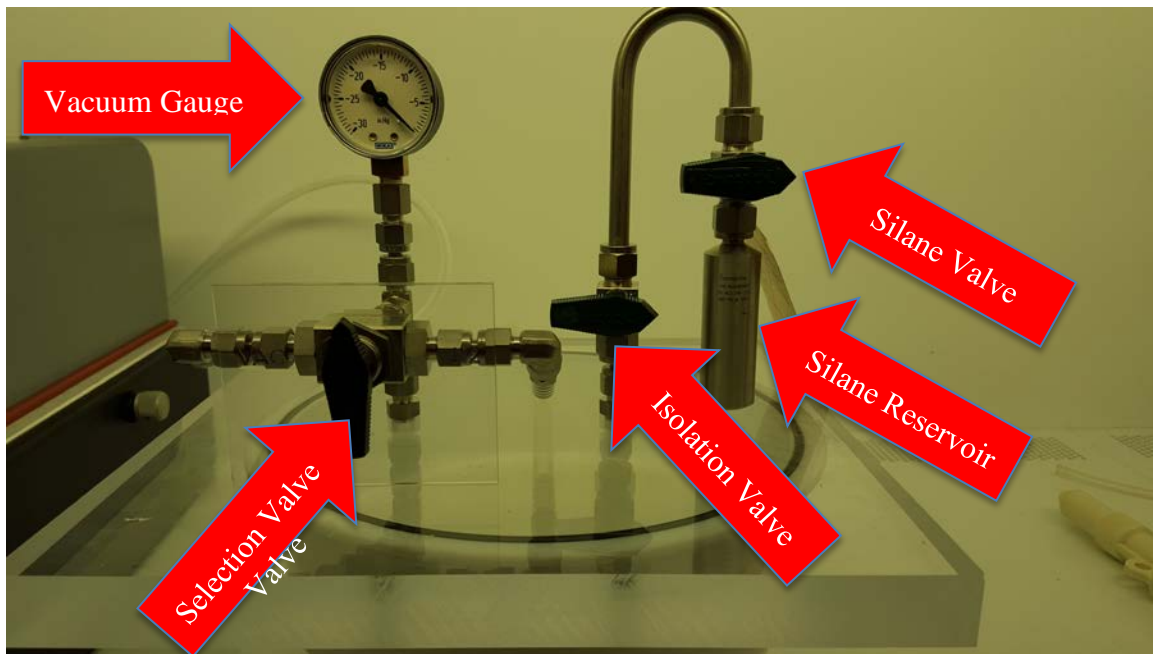

Figure 1- Silane vapor deposition chamber
This process utilizes a custom-fabricated vapor deposition chamber shown below in figure 1.
23. Move all valves to OFF position (selector valve pointing up, isolation and silane valves pointing sideways. (as shown in figure 1).